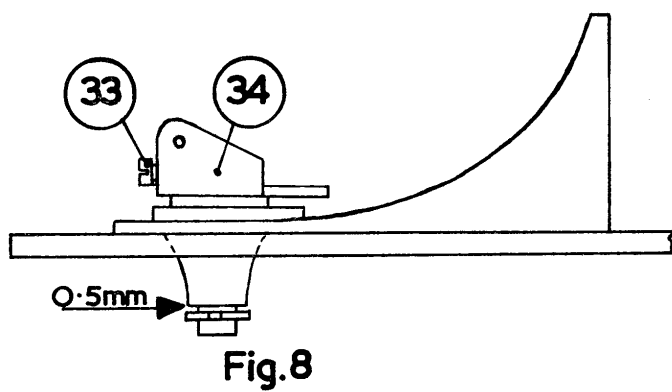

Fig.8
1. The distance between the locking ring of the pick-up arm spindle and the bottom of the moulding should be 0.5mm. (see fig. 8). Adjustment can be made by unscrewing fixing screw 33 and altering the position of bracket 34.